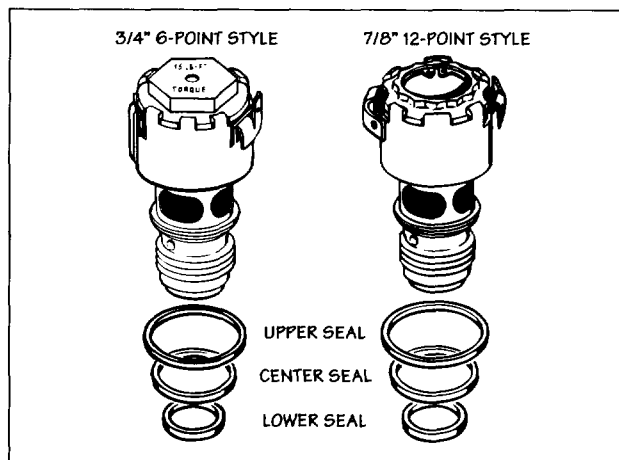

FIG. 22
2. Remove and discard the three rubber seal rings (see Fig. 22). If the lower ring stays in the bottom of the housing solenoid bore, remove with a seal pick.